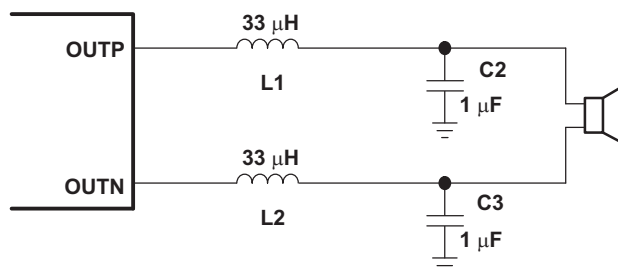
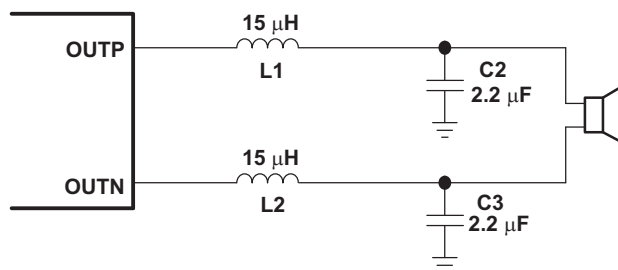
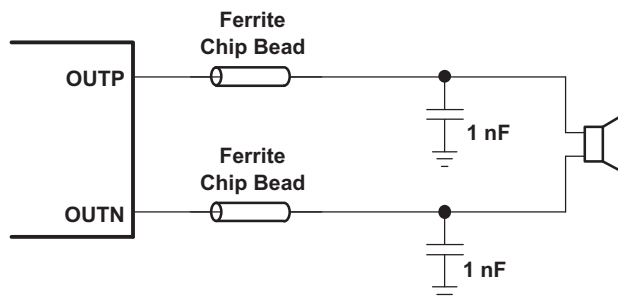
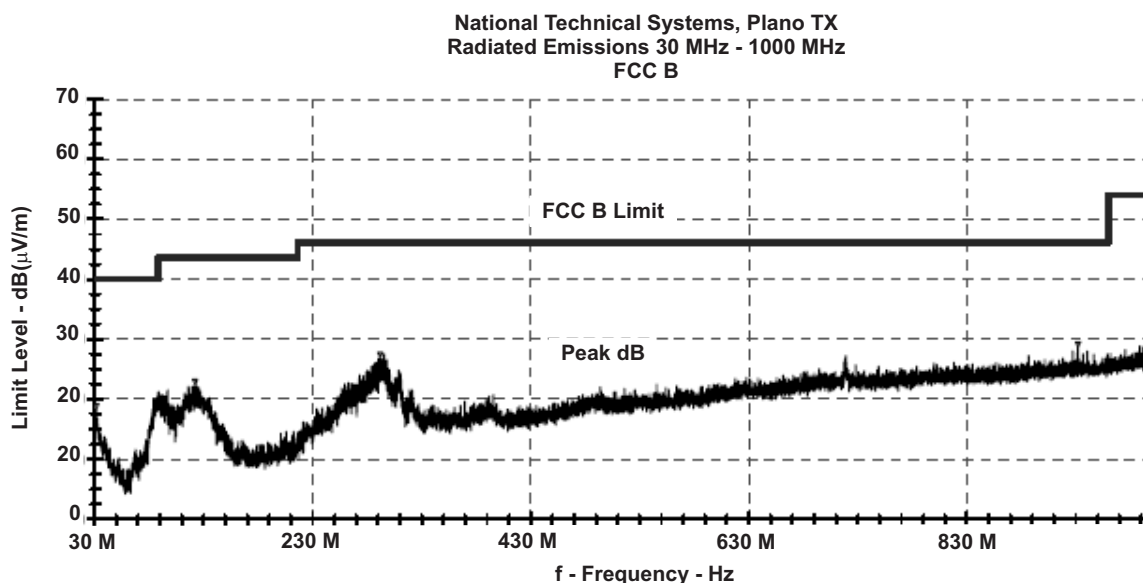

Figure 27. Typical LC Output Filter, Cutoff Frequency of 28 kHz, Speaker Impedance = 8 Ω
Figure 28. Typical LC Output Filter, Cutoff Frequency of 28 kHz, Speaker Impedance = 4 Ω
Figure 29. Typical Ferrite Chip Bead Filter (Chip Bead Example: Fair-Rite 2512067007Y3)
Figure 30. Radiated Emissions Prescan 30 MHz - 1000 MHz
Using the LC filter in Figure 27, the TPA3100D2 EMI EVM passed the FCC Part 15 Class B radiated emissions with 21-inch speaker wires. Quasi-peak measurements were taken for the 4 standard test configurations, and the TPA3100D2 EVM passed with at least 17-dB margin. A plot of the peak measurement for the horizontal rear configuration is shown in Figure 30.
- **Output filter**—The ferrite EMI filter (Figure 29) should be placed as close to the output terminals as possible for the best EMI performance. The LC filter (Figure 27 and Figure 28) should be placed close to the outputs. The capacitors used in both the ferrite and LC filters should be grounded to power ground. If both filters are used, the LC filter should be placed first, following the outputs.